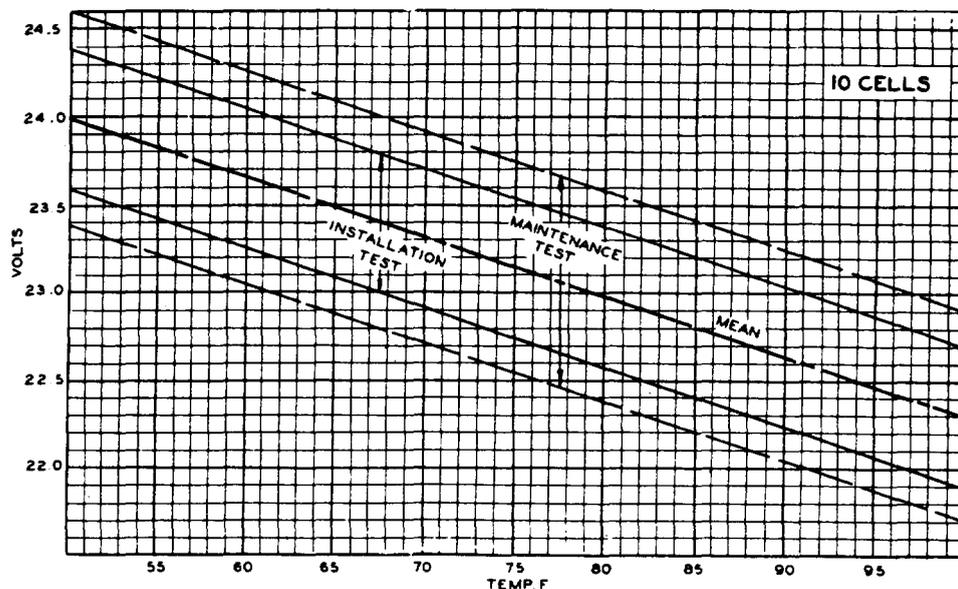

Fig. 3 – 253A Relay Operate Limits (Without Rheostat)
2.02 *The 253A and 253B relays for 8, 10 or 11 cell batteries without rheostats* in the relay coil circuit to reduce the charge, shall meet the operate values shown in Fig. 3, 4 or 5 as indicated.
(1) Set up the connections, stabilize the relay, and determine the temperature and operate voltage of the relay as outlined in 3.01. If the operate voltage is within the installation test limits specified for the temperature shown in Fig. 3, 4 or 5 for the type battery being used, no further action is required. If it is not within the limits, readjust as follows.
(2) To readjust the operate value, leave the voltage on the winding at the last operate value. To permit the checking of the trial adjustments immediately after adjustment with the cover off, it is first necessary to determine the effect on the operate voltage resulting from removing the cover. For example, assume that a relay requiring adjustment operated at 25.0
(7) Where the relay winding is not normally energized, leave the voltage on the winding at approximately the desired operate value for 20 minutes or more before checking the operate voltage.
(8) If the operate voltage, based on room or estimated temperature, is outside of the maintenance test limits in Fig. 3, 4 or 5, no attempt at readjustment, either electrical or mechanical, should be made without checking the temperature adjacent to the relay with the recommended thermometer. If the operate voltage is still outside the limits based on an actual temperature reading at the relay, readjust as outlined in (2), (3), (4), and (5).